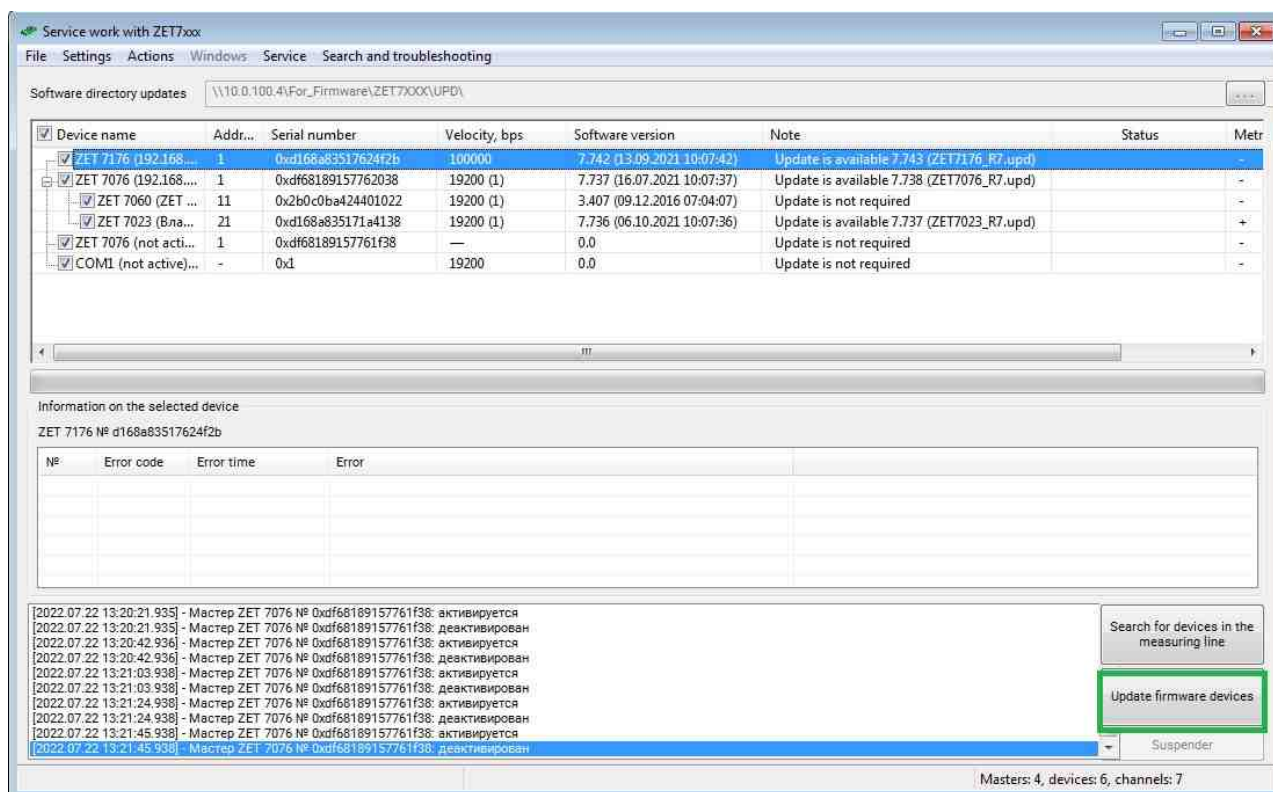

Fig.6.4 Button "Updating firmware devices"
4. Then  activate the button "Updating firmware devices" (Fig.6.4).